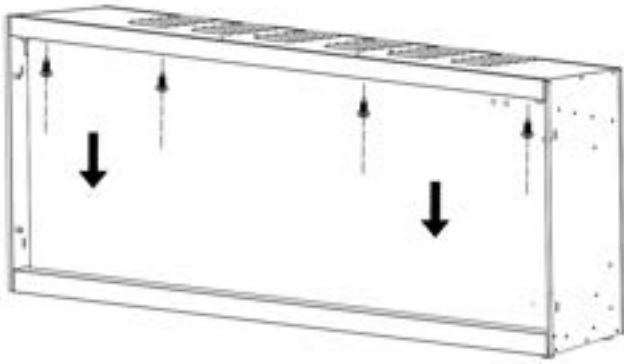

Fig. 2-3
C. With one hand on the front glass to prevent it from falling, remove the screws from the top of the glass. Set the screws aside. (Fig. 2-3)